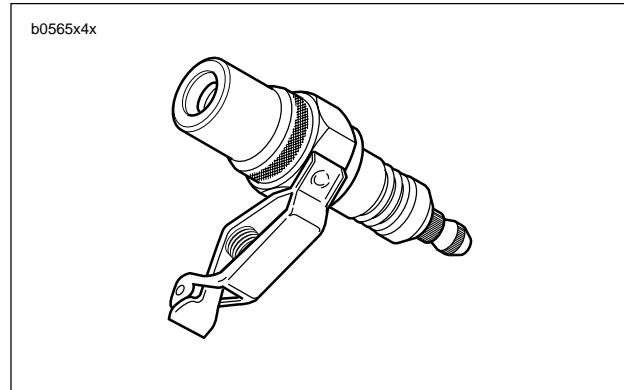

Figure 4-24. Spark Plug Tester
- b. See Figure 4-24. Attach cable to SPARK PLUG TESTER (Part No. HD-26792). Clip tester to cylinder head bolt.